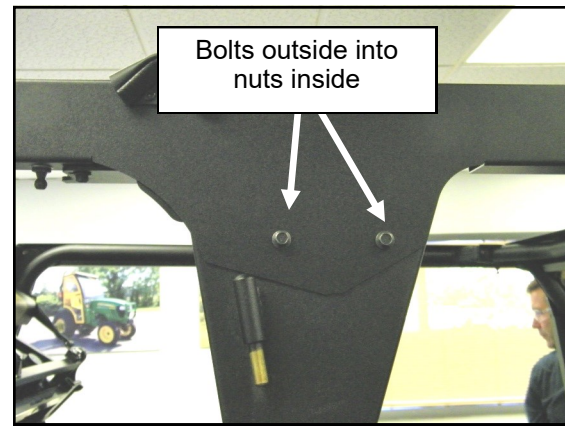

Fig. 7.2 Header to B-pillar
- 7.2 Per figure 7.2, attach the header to the B-pillar with (2) 1/4-20 bolts and nuts per side, with nuts on the inside of the panel. Leave loose.